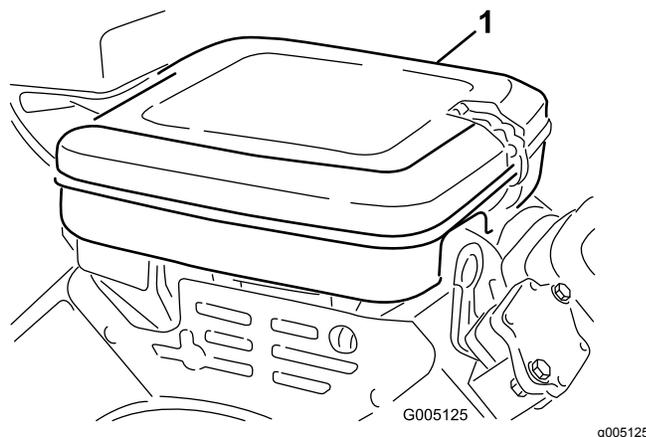

Figure 24
1. Clean the air-cleaner cover (Figure 24).